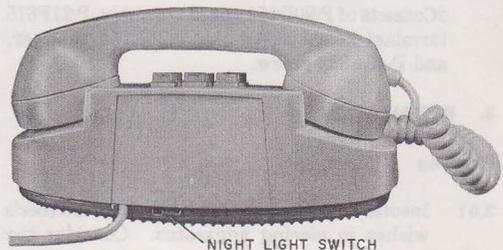

Fig. 2—2702B Telephone Set, Rear—Night Light Switch Location
2.05 The night light switch allows dial lamp to be operated at reduced intensity (dial lamp illuminates dial at full intensity with handset off-hook Fig. 2).